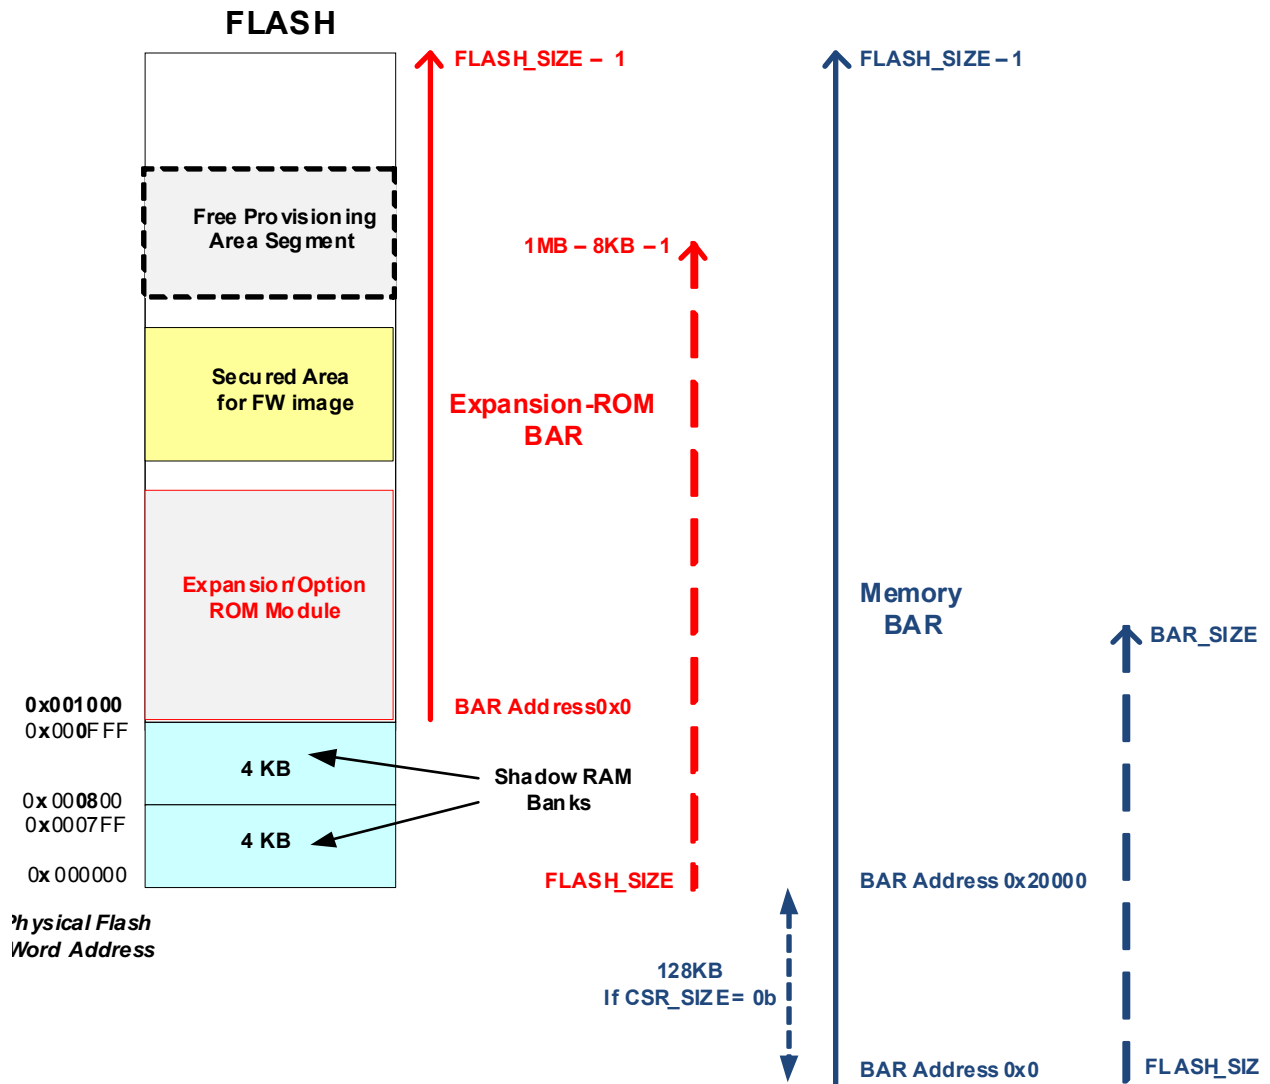

Figure 3-5. Flash Part Size is Smaller Than BAR Size
- b. For *BAR_SIZE* >= 1 MB, read accesses beyond (1 MB - 8 KB) of the Expansion-ROM BAR returns unpredictable data. Refer to Figure 3-5.
While in the non-secure mode, Flash BAR access while FLA.FL_REQ is asserted (and granted) is forbidden. It can lead to a PCIe hang as a bit-banging access requires several PCIe accesses. Figure 3-4 and Figure 3-5 show the BARs mapping schemes according to the size of the BAR vs. the Flash memory sizes supported.